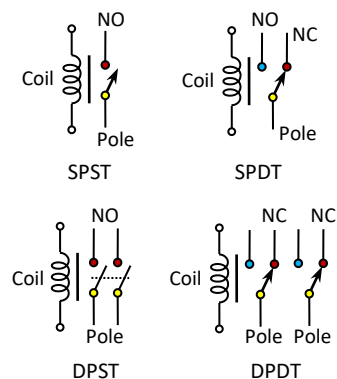

Fig.1-115: Symbols of different types of relays
Relays have basically three main parts. These are: (i) **Electromagnetic coil** (solenoid), (ii) **Contacts-Normally Open (NO) and Normally Closed (NC)**, and (iii) A **movable Contact or Pole** fitted with a spring [as shown in Fig.1-115].